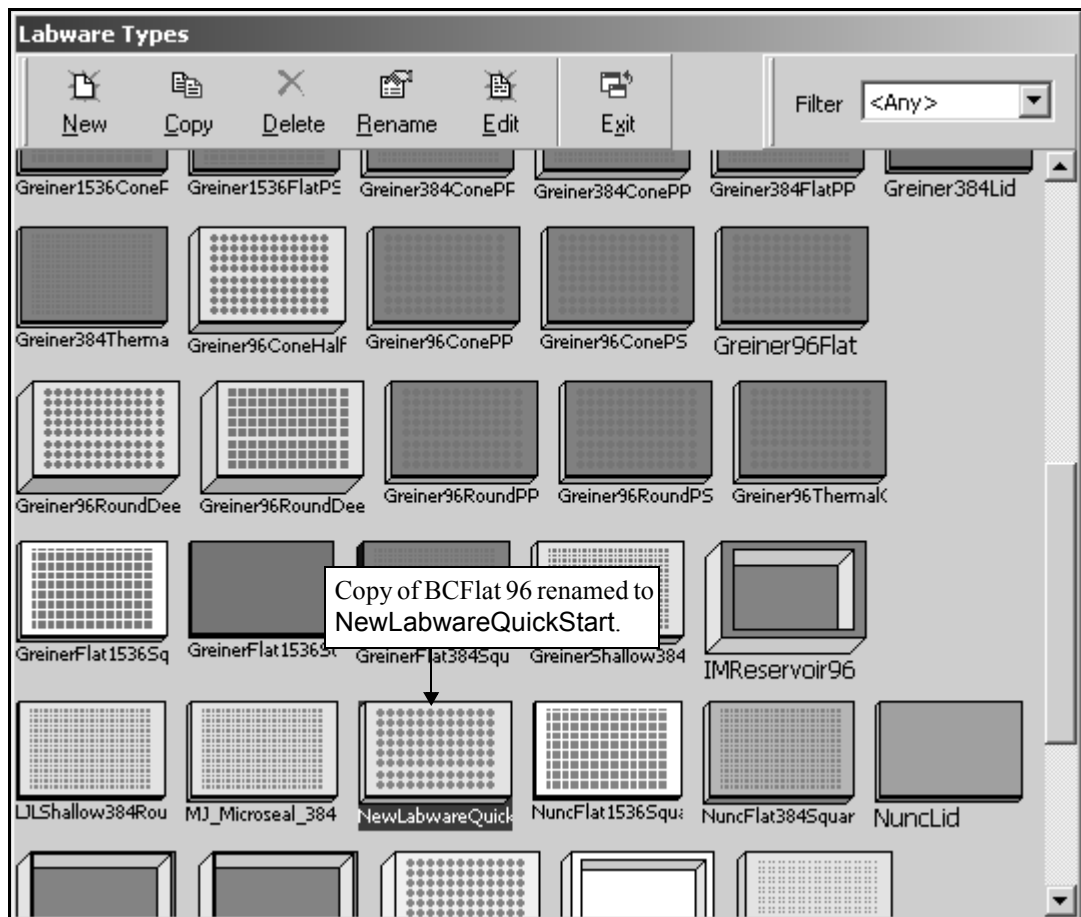

Figure 3-4. NewLabwareQuickStart in Labware Type Editor
- Enter NewLabwareQuickStart and choose **OK**. The copy of BCFlat96 is created with the specified name and appears in Labware Type Editor (Figure 3-4).